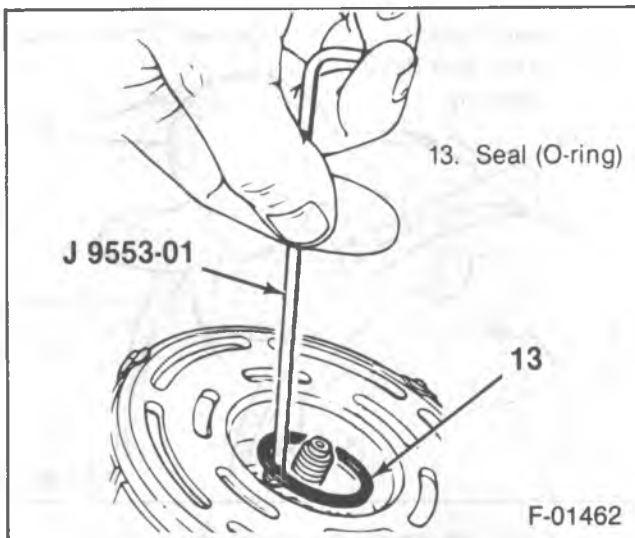

Figure 16—Removing and Installing the Shaft Seal
3. O-ring using J 9553-01 (figure 16).